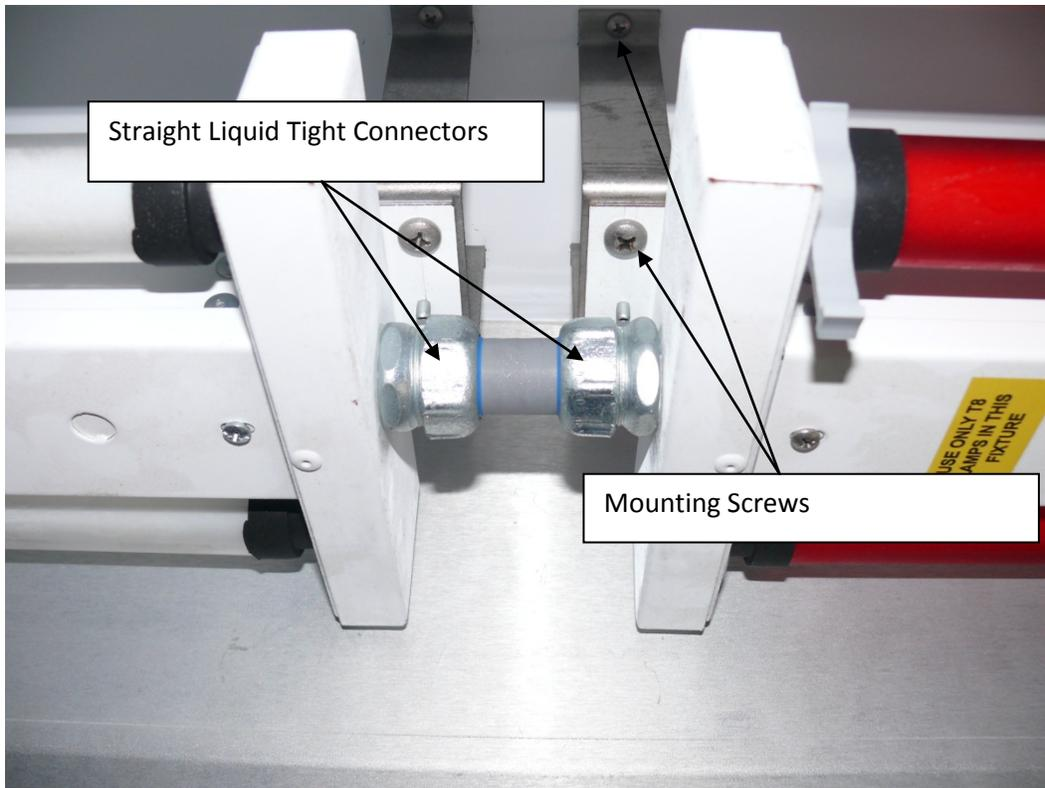

Figure 2: Position of Straight Conduit Connectors and Mounting Screws.
6. Loosen the liquid tight conduit nuts that connect the liquid tight conduit between emergency and blackout fixtures (figure 2).